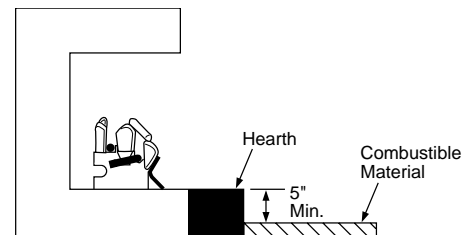

Figure 10 - Minimum Fireplace Clearances Above Combustible Flooring
- If combustible materials are less than 14" to the fireplace, you must install appliance at least 5" above the combustible flooring (see Figure 10).